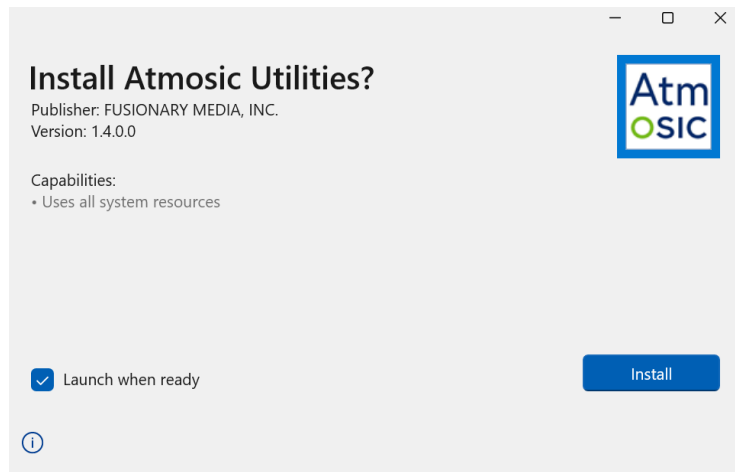

Figure 5 - Install Atmosic Utilities
- Figure 5 - Install Atmosic Utilities
- 5) Ensure that 'Launch when ready' is checked as shown in Figure 5 below, as this will trigger the application to automatically start once the installation is complete.